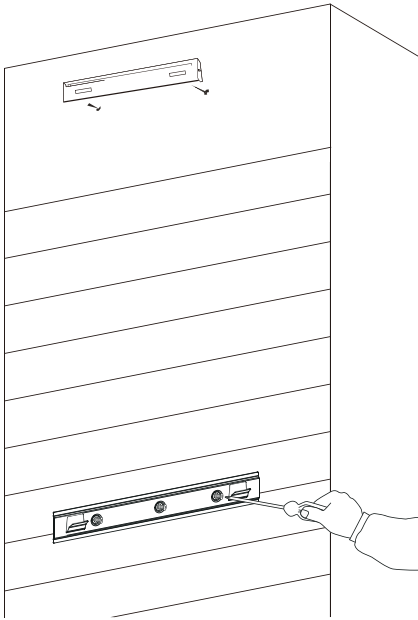
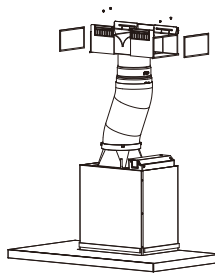

Fig7
Fig. 9
3. Install the flue cover mounting and wall brackets with screws to the wall as marked (Fig.7). Please mounted recirculating T pieces together with flue cover bracket if recirculating mode is used. (Fig.9)
### 5a. Recirculating mode (Fig. 9).
According to the flue cover dimension, fix the T-piece by 4 screws Supplied. Adhesive two sponges to the outlet of T-piece as shown (Fig.9)